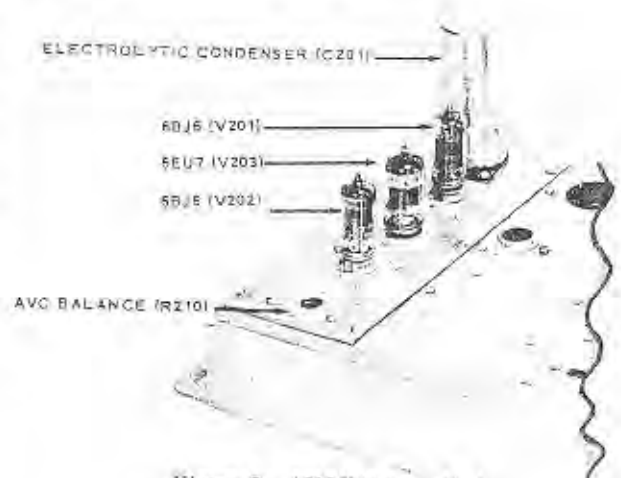

Figure 2. AVCU10 Installed.
2. Install AVCU10 unit as shown in Figure 2 and secure with 6-32 x 1/2 self-tapping screws from step 1.